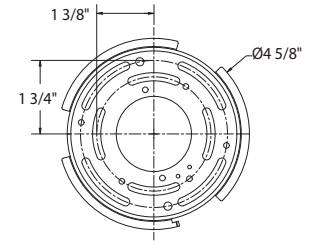

Fig. 4 Switch
3. Remove the mounting screw (B) from the mounting plate.
4. The lamp can switch between three color temperatures (3000K-3500K-4000K), which can be adjusted to your preference with the switch on the mounting plate (Fig.4).